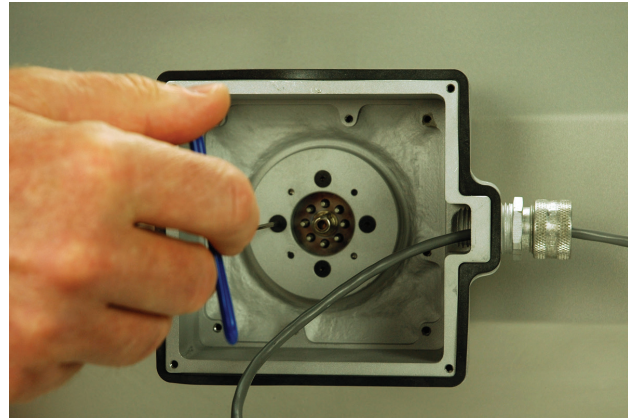

Fig. 3.4 Removing the screws at the base of the housing
5. Remove the four allen head screws at the base of the housing. These screws secure the housing to the transducer (Figure 3-4).